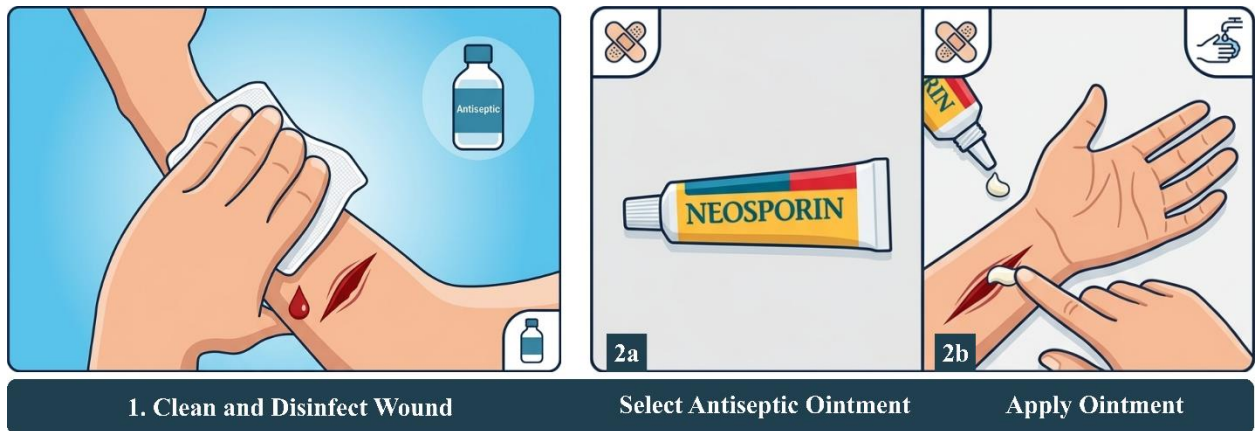

Fig.4.1: First Aid for Cuts and Wounds
4.3.1 First Aid for Cuts and Wounds (Refer Fig.4.1)